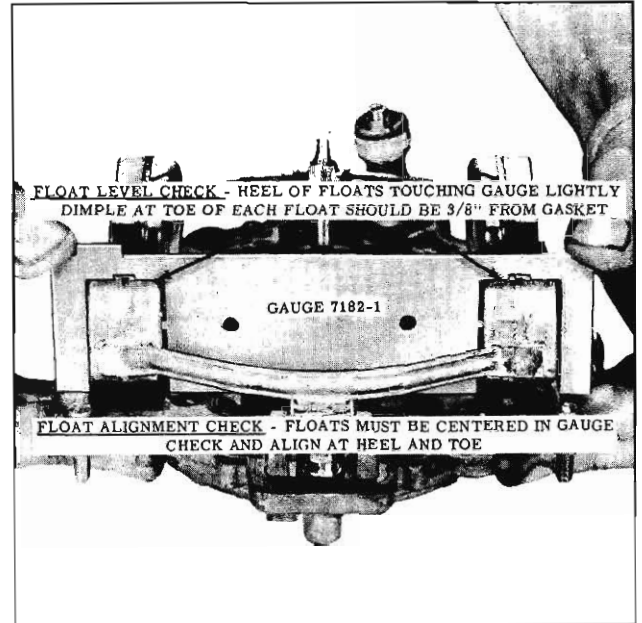

Fig. 4-19 Checking Secondary Float Level and Alignment
1. With the gasket in place and the air horn inverted, position gauge as shown in Fig. 4-19.